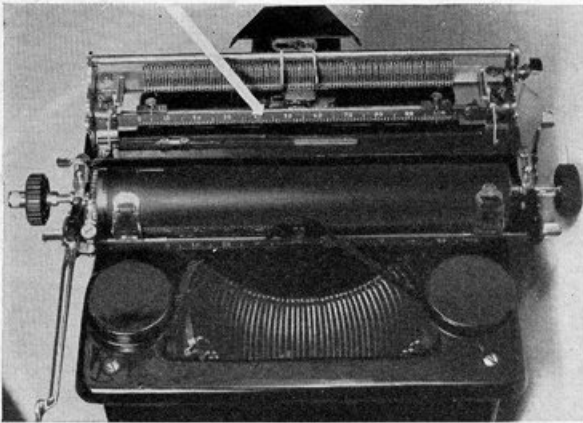

Figure 11.—Margin bar, L. C. Smith.
*Margin Bars.*—The margin bar supports the margin stops (see fig. 11, p. 8). Wipe the bar with an oil-moistened cloth, moving the margin stops back and forth on the bar until they slide freely. Wipe off any surplus oil.